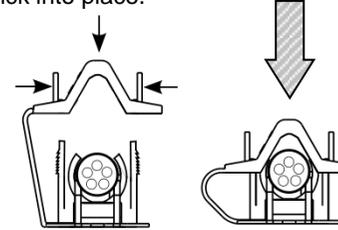

fig 5
4. Clamp the mains cable beside the terminal blocks by pressing the plastic clamping block together onto the cable as in fig 5, the clamp will click into place.